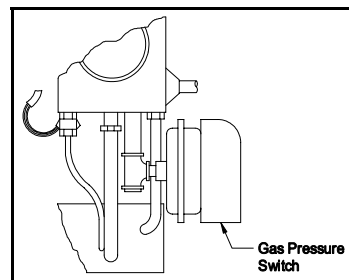

Figure 10
3. Install the gas pressure switch into the side of the pipe tee. The gas pressure switch is supplied with a restrictor orifice in the inlet and outlet ports. With these orifices in place, the switch does not need to be vented. This feature complies with current ANSI standards for gas regulators. (See Figure 10).